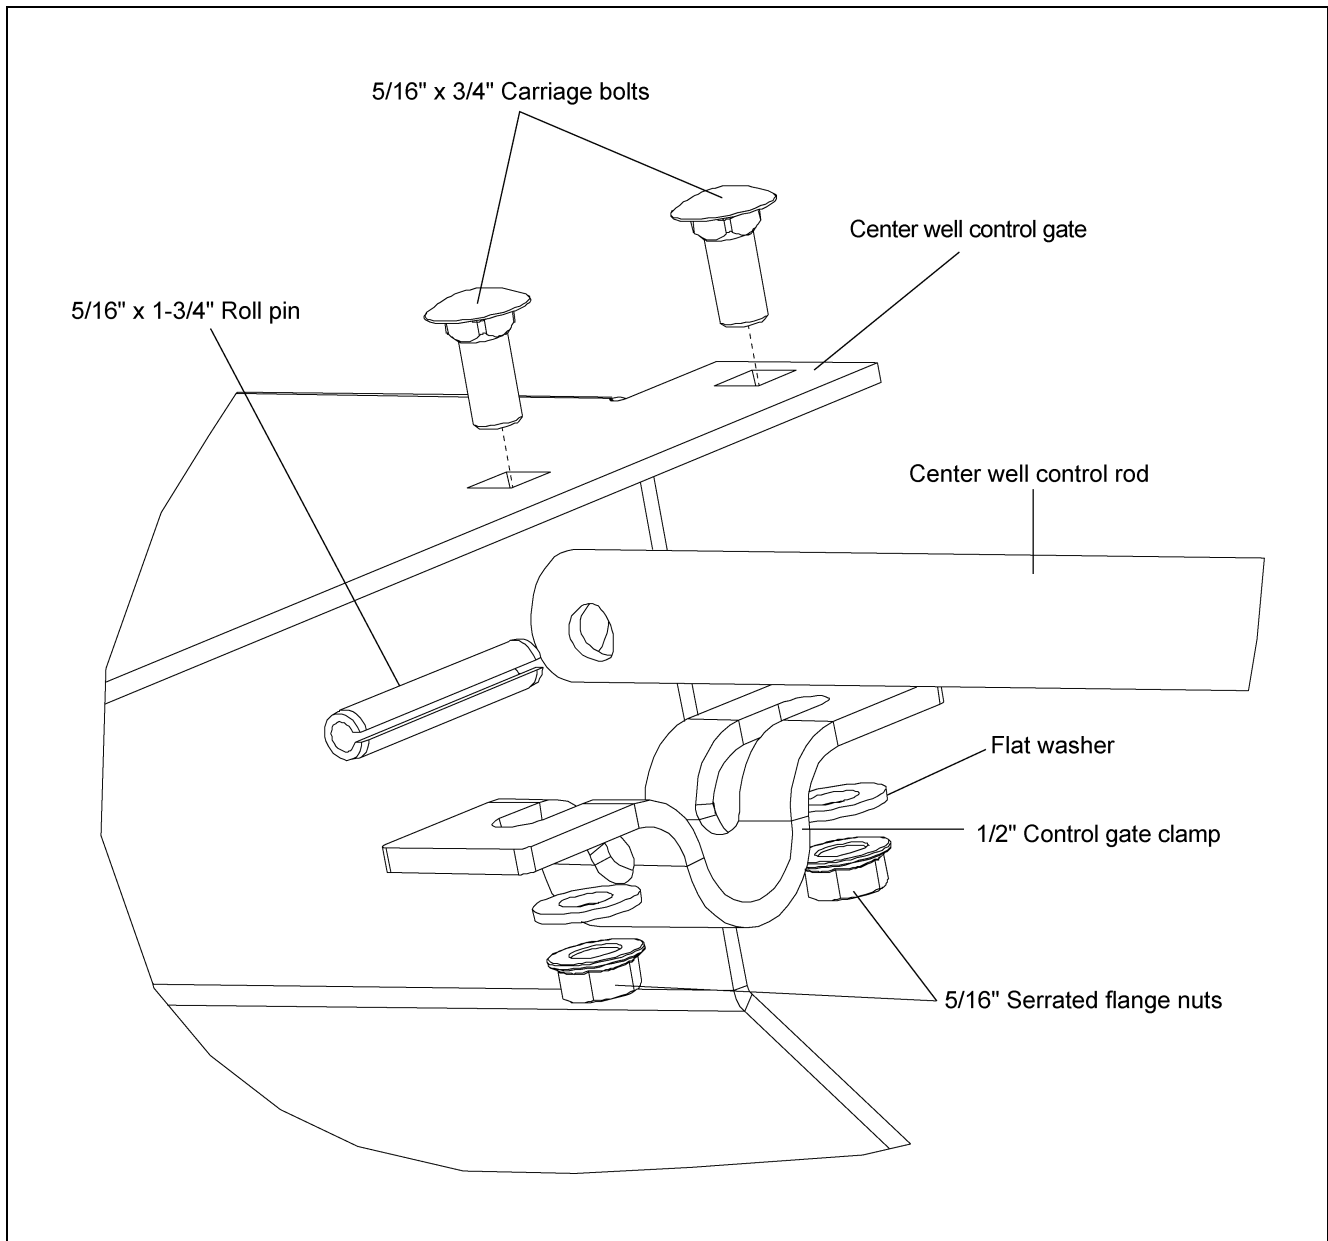

Figure 4L
4. Fasten clamp to bottom side of control gate by using two (2) $5/16"$ x $3/4"$ long carriage bolts, flat washers and serrated flange nuts. (See Figure 4L.)